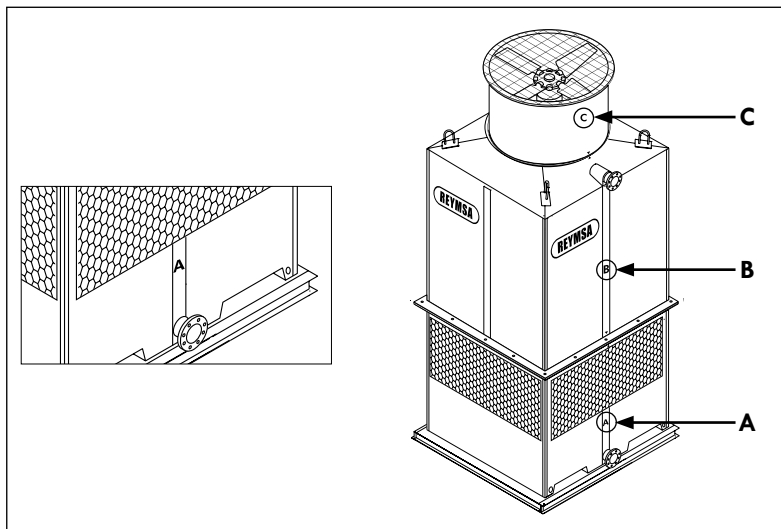

Figure AP-8: Assembly sequence labels for RT-A, RT-B or RT-C towers.
- B. The label for each section is marked with a letter, and each section must be installed in ascending order. See figure AP-8.